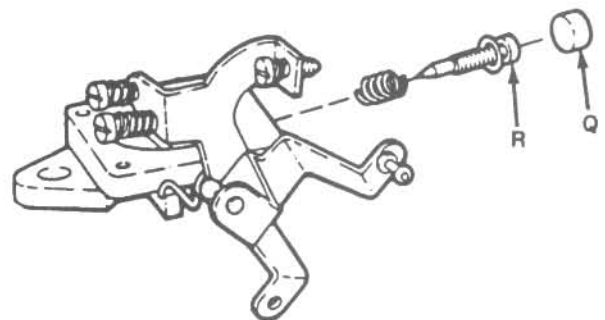

Fig. 4.79 Drill out the plug (Q) for access to the idle mixture screw (R)
- 18 Drill a hole in the tamper-proof plug and lever it out of the bore, then count and record the number of turns required to lightly seat the idle mixture screw. Remove the idle mixture screw, O-ring and spring (Fig. 4.79).